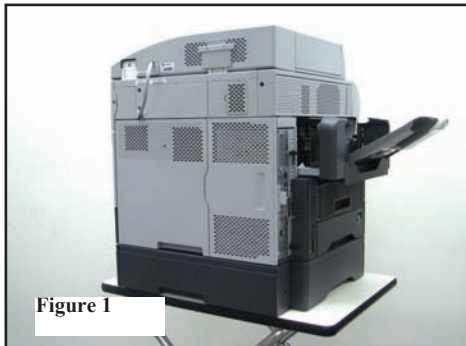

Figure 1
4. Move to the left side of the printer and remove the output tray by lifting slightly and pulling out. (Figure 1)